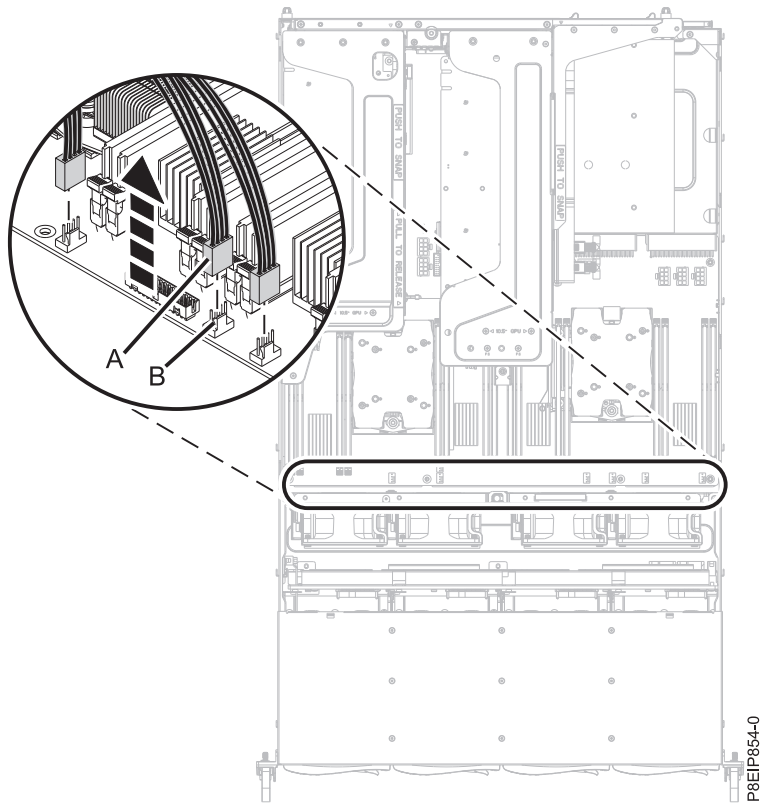

Figure 60. Disconnecting the fan cables
4. Unplug the four fan power cables from the system backplane as shown in Figure 60 on page 49. Release the connector clip (**B**) and carefully pull up the connector (**A**) from the system backplane. Do not pull on the wires.